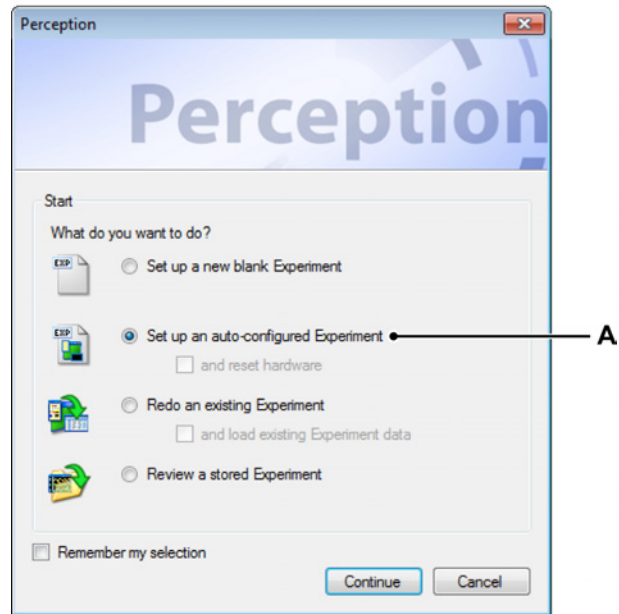

Figure 3.2: Perception job dialog
- 3 Perception will continue to start. To continue, Perception will ask which job it should perform (see Figure 3.2):